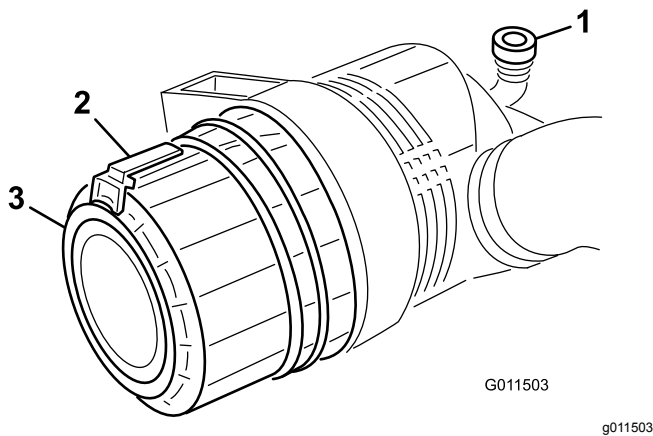

Figure 47
2. Pull the latch outward and rotate the air-cleaner cover counterclockwise (Figure 47).